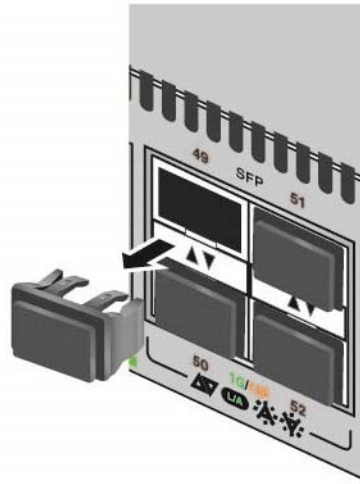

Figure 30. Removing the Dust Plug from an SFP Port
2. If the port has a dust cover, remove it. Refer to Figure 30.